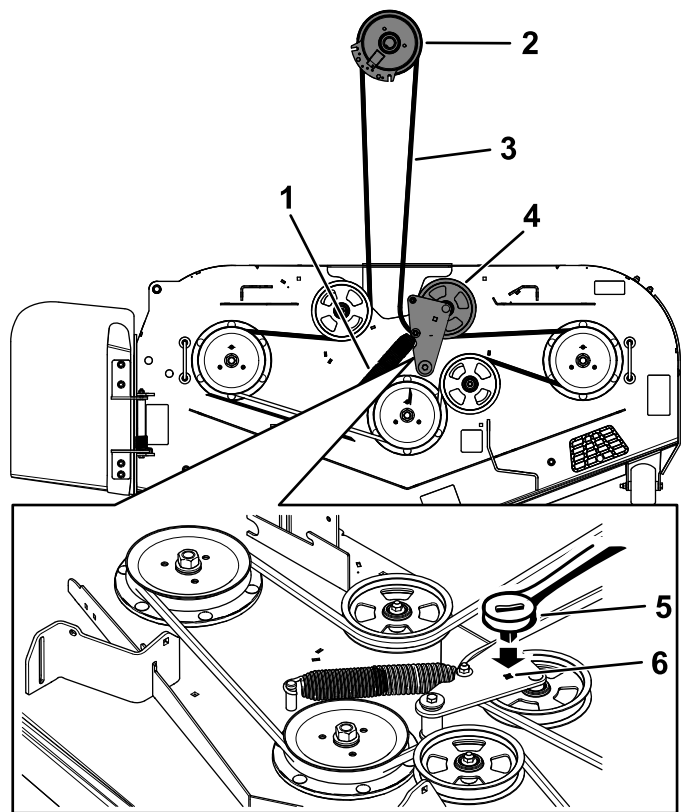

Figure 76
10. Install the belt guide on the idler arm (Figure 76).
11. Using the 3/8-inch ratchet in the square hole, install the idler spring (Figure 76).
5. Use a 3/8-inch ratchet in the square hole in the idler arm to remove tension on the idler spring (Figure 76).
7. Remove the belt guide on the spring-loaded idler arm (Figure 76).
9. Install the new belt around the mower pulleys and the clutch pulley under the engine (Figure 76).